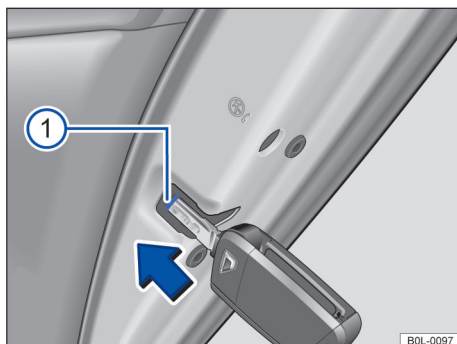

Fig. 47 In the front edge of the rear right-hand door: locking the vehicle with the emergency key
- Insert the key bit into slot → Fig. 47 ⌚ and press it in the direction of the arrow until the locking device in the slot is stuck.